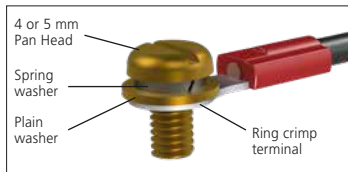

Fig. 7.5.1
**⚠ To ensure secure electrical connections, it is important that the requisite washers are used as shown in Figure 7.5.1. Failure to do so may result in connections working loose or screws not clamping down on ring crimp terminals. Spring washers must be compressed. Screw tightening torques must not exceed 1.5 Nm (1.1 lbf.ft)**